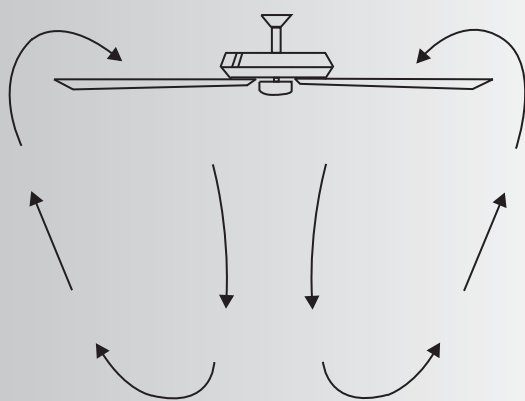

Fig. 23
**Warm weather-(Forward)** A downward airflow creates a cooling effect as shown in Fig. 23. This allows you to set your air conditioner on a warmer setting without affecting your comfort.